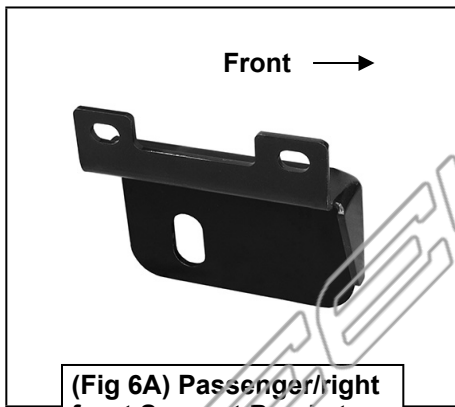

**Fig 5**
4. Next, carefully pull back the plastic lower fender cover and remove the (2) factory bolts in the bottom of the fender, **(Figure 5)**. Select the passenger front Support Bracket, **(Figure 6)**. Attach the Bracket to the (2) threaded holes with (2) 6mm x 20mm Hex Bolts and (2) 6mm Flat Washers, **(Figure 7)**. **IMPORTANT:** Make sure the Support Bracket is behind the front Bracket. Snug but do not fully tighten hardware at this time.